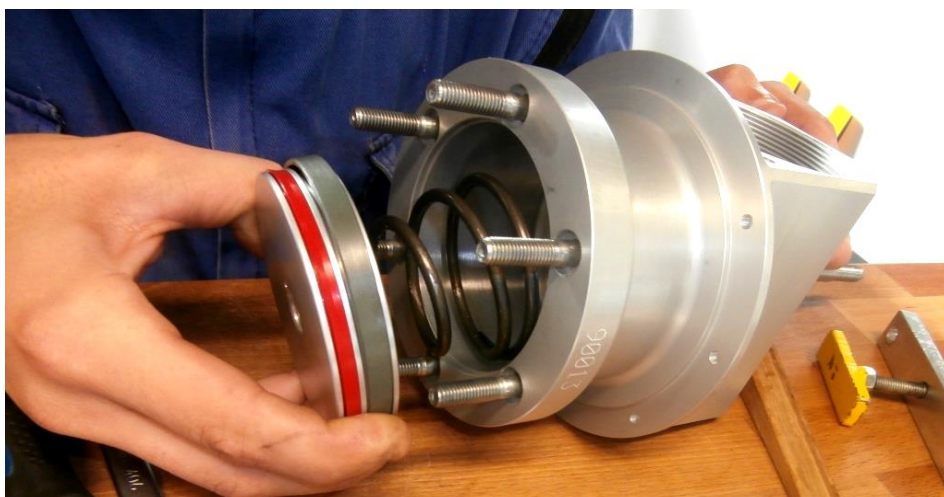

Fig. C-14 Piston installation
- 11) Apply layer of AeroShell 5 Grease onto conical spring (16). Lightly coat walls of cylinder in rear part of hub using engine oil. Lubricate sliding insert – uncoiled strip (18) – using engine oil. Coil strip and insert into 8mm wide groove in piston. Hold coiled strip on piston using fingers and insert small side of spring (16) onto pin (Ø22) at bottom of piston. Carefully insert this assembly into cylinder (Fig. C-14).